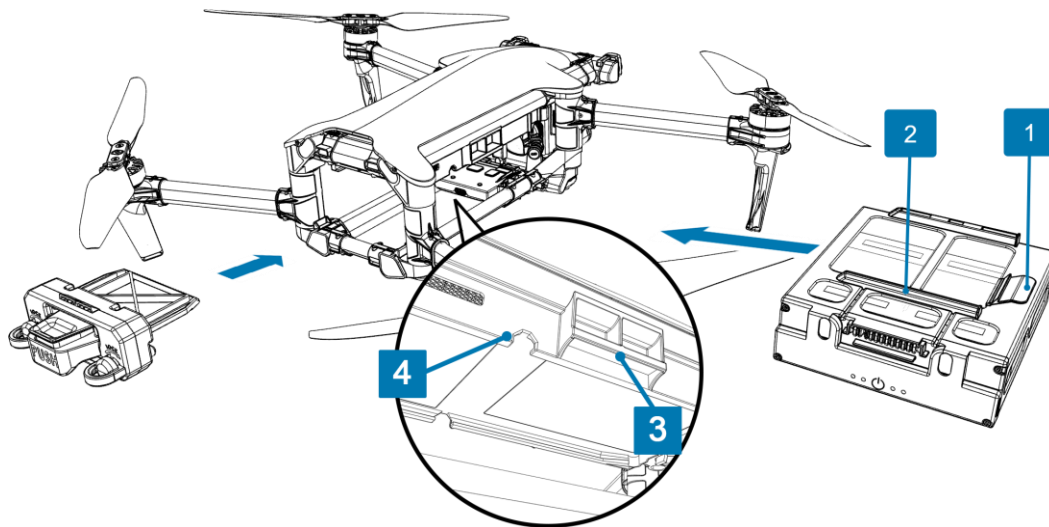

Figure 16: ANAFI UKR XLR battery insertion
2. Position the battery's slide rail, located on the top face of the battery (No.2 in Figure 16), into the drone's corresponding slide groove (No.4 in Figure 16).
4. Ensure that the latch (No.1 in Figure 16) is correctly seated in the latch receptor (No.3 in Figure 16).